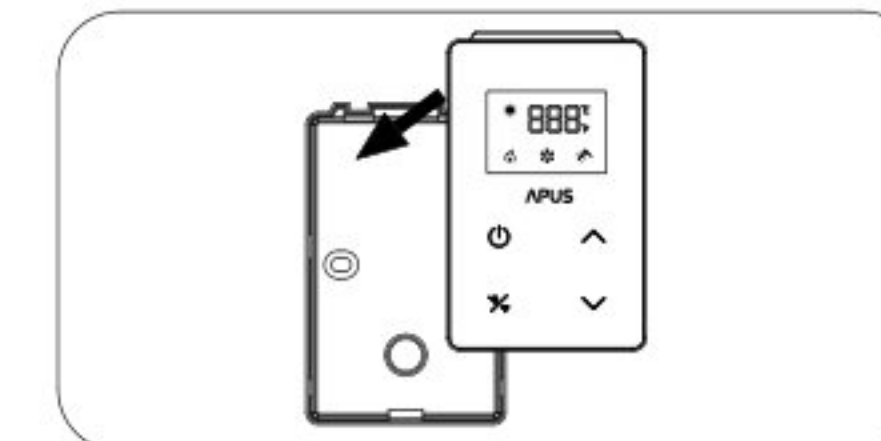

Figure 16
- Re-assemble the controller cover as Figure 16